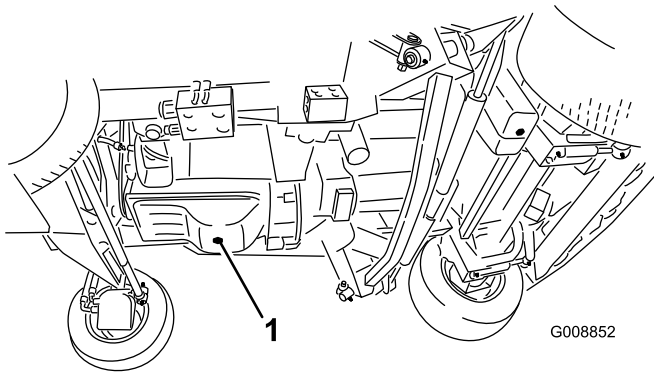

Figure 63
- Remove the drain plug (Figure 63) and let the oil flow into a drain pan. When the oil stops, install the drain plug.